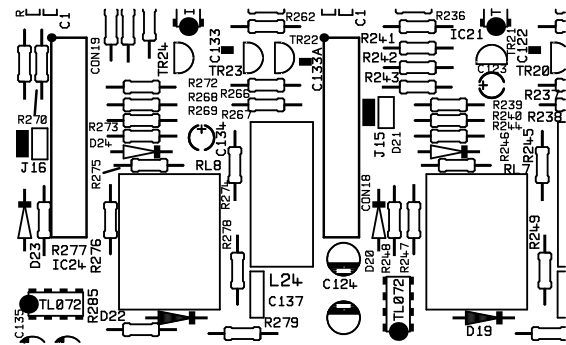

Fig 12
3. Select the required PCB connector (see Fig 12 adjacent) that you wish to install the equalisation module to and remove the jumper from it.